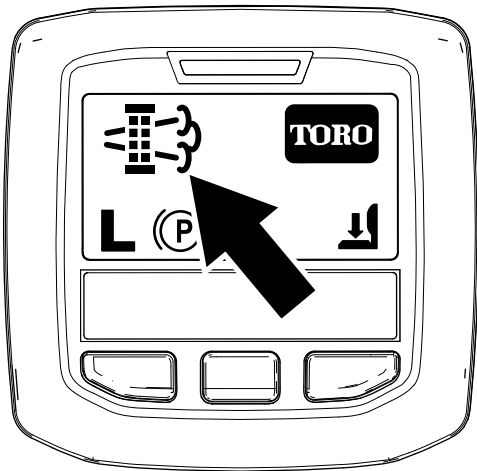

Figure 43
- When the engine computer requests either a parked regeneration or a recovery regeneration, the regeneration request icon (Figure 43) displays in the InfoCenter.